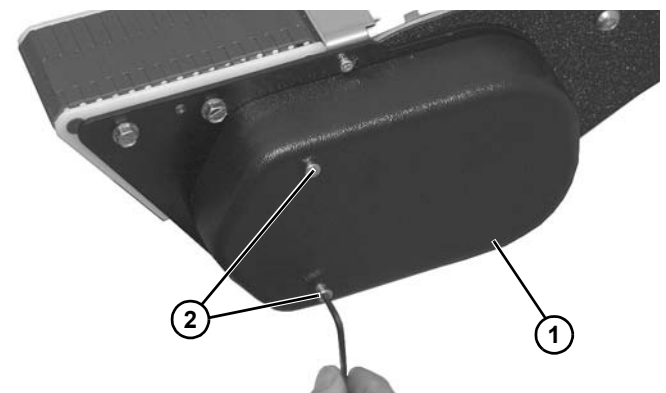

Figure 180
12. Install cover (**Figure 180, item 1**) with two socket head screws (**Figure 180, item 2**).